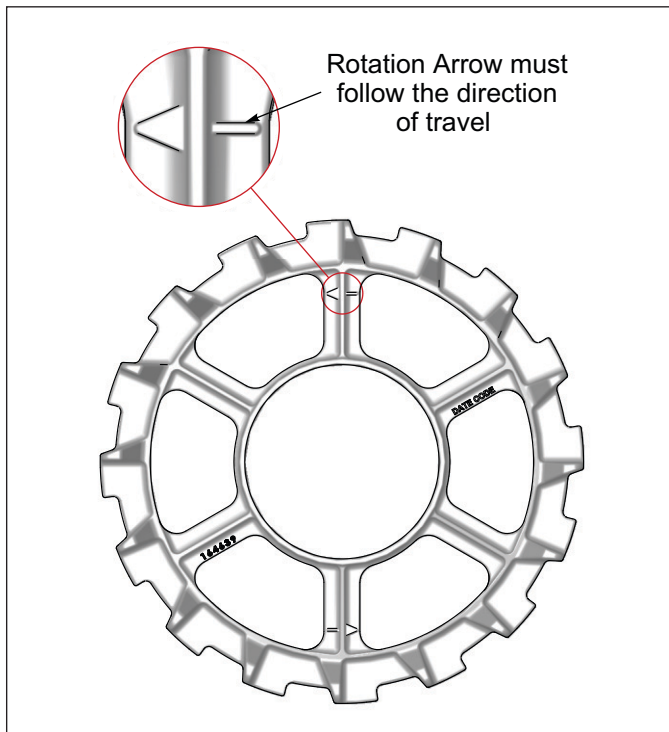

Figure 2-16: Crowfoot Wheel Rotation Arrow
1. Roller Assemblies are pre-assembled from the factory with stub shafts, bearings, shims, and retaining washers. *NOTE: Crowfoot Wheel Rotation Arrow must follow the direction of travel. See Figure 2-16.*